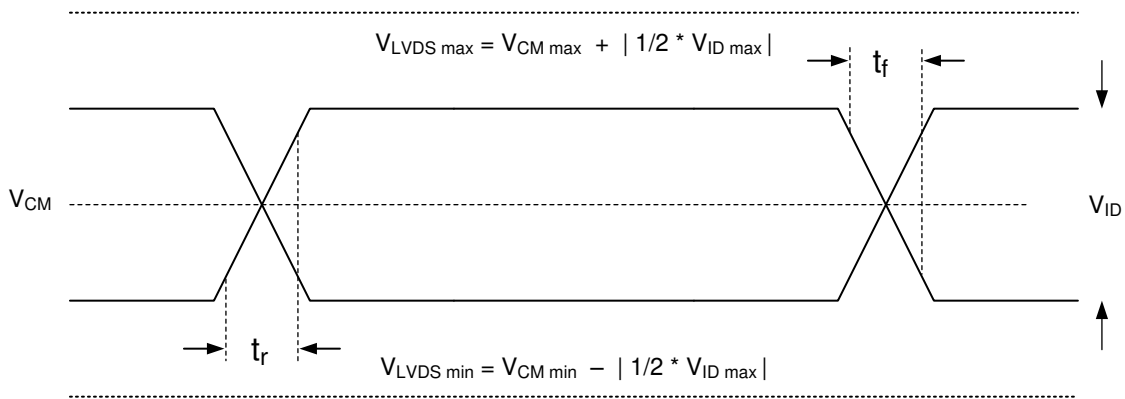

Figure 5-5. LVDS Waveform Requirements
- Refer to Figure 5-5.
(2) See Figure 5-5 for Timing Requirements for LVDS.
(3) Channel C (Bus C) includes the following LVDS pairs: DCLK_CN and DCLK_CP, SCTRL_CN and SCTRL_CP, D_CN(15:0) and D_CP(15:0).
(4) Channel D (Bus D) includes the following LVDS pairs: DCLK_DN and DCLK_DP, SCTRL_DN and SCTRL_DP, D_DN(15:0) and D_DP(15:0).